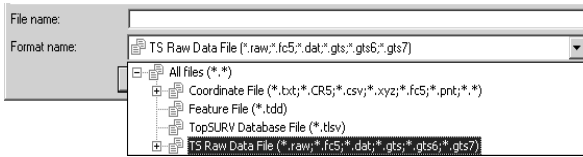

Figure 4-5. File Type
- Select the file type if the file type is known and the file format is unknown (Figure 4-5).